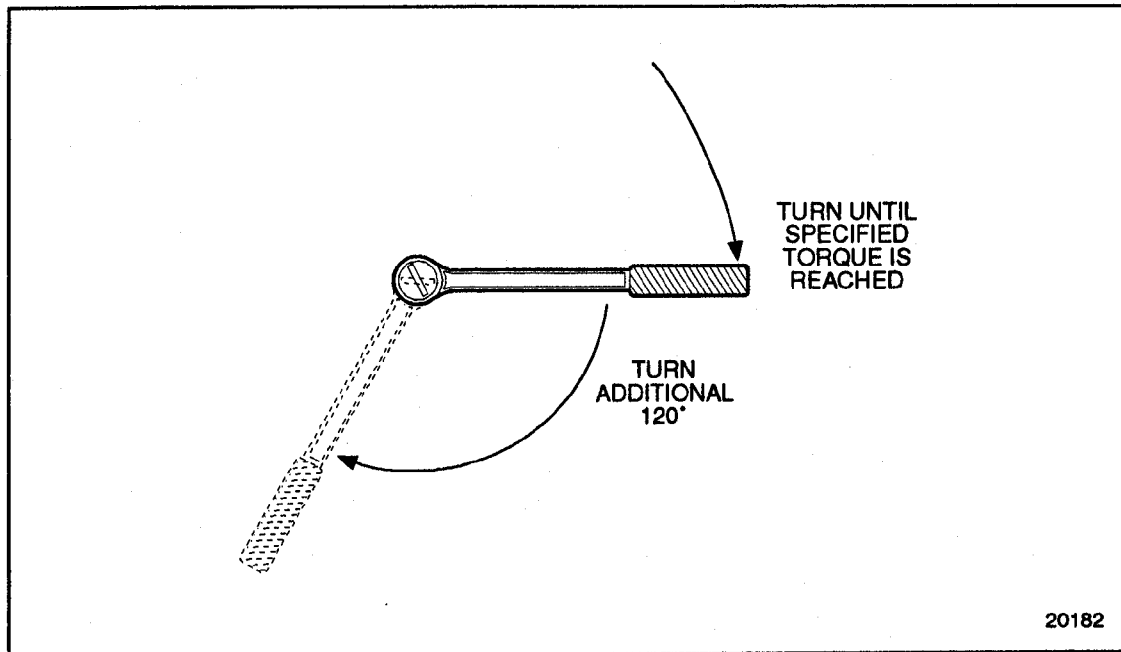

Figure 1-348 Torque Turn Limits
23. Turn bolt an additional 120 degrees. See Figure 1-348.